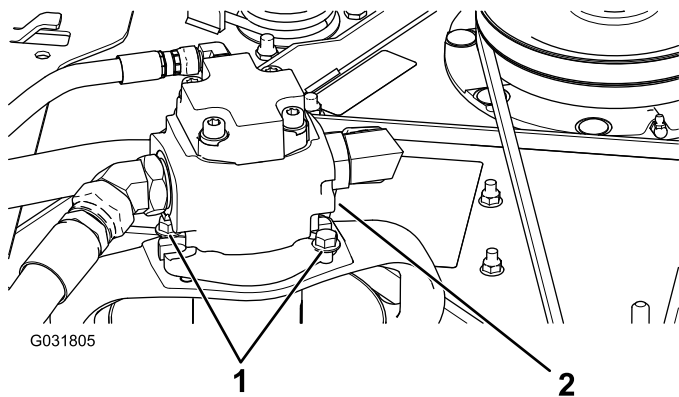

Figure 94
5. Remove the bolts securing the hydraulic motor to the cutting unit (Figure 94).
3. Remove the bolts securing the hydraulic motor to the cutting unit (Figure 94).